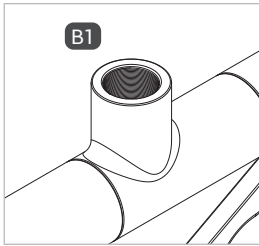

Figure 1
- ▶ Screw the 'B1' media inlet pressure-tight to the port for the media line (*Figure 1*).